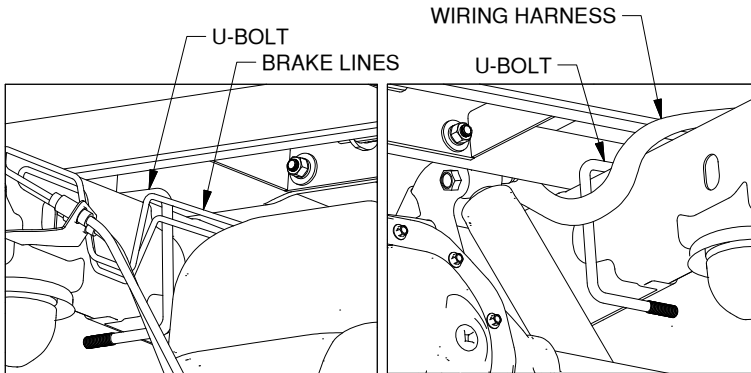

Figure C1:
- 1. Position the U-bolts.** Each side plate will utilize a U-bolt for attachment to the frame. On the driver side, the U-bolt will need to be passed under the brake lines on the side of the frame, see Figure C1. On the passenger side the U-bolt will need to be positioned under the wiring that runs over the top of the frame, see Figure C2. Move the U-bolts so that they hang roughly 8 inches in front of the axle center line.